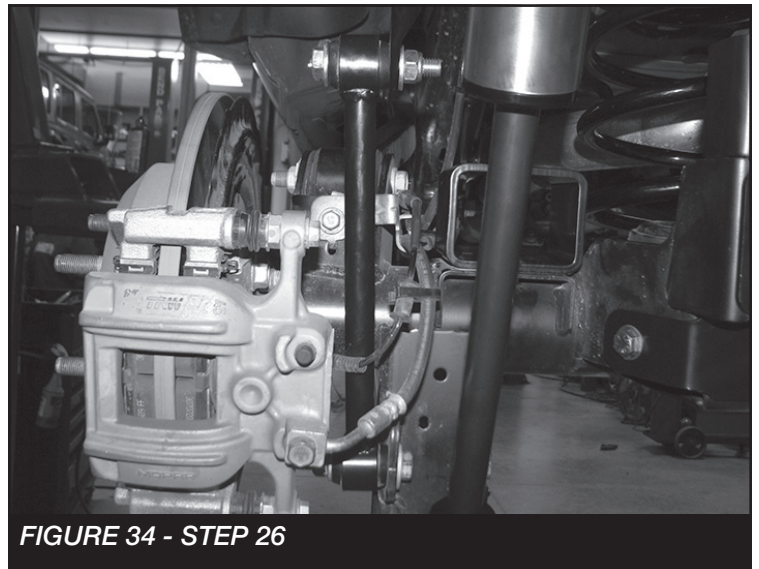

FIGURE 34 - STEP 26
26. Install the FT50048 (Bushings) and FT404739 (Sleeves) into FT50026BK (Rear sway bar links). Then, install the new links to the sway bar and sway bar mount on the axle using supplied M12 x 70mm hardware for the upper location and the factory for the lower. Torque to 100 ft-lbs **SEE FIGURE 34**